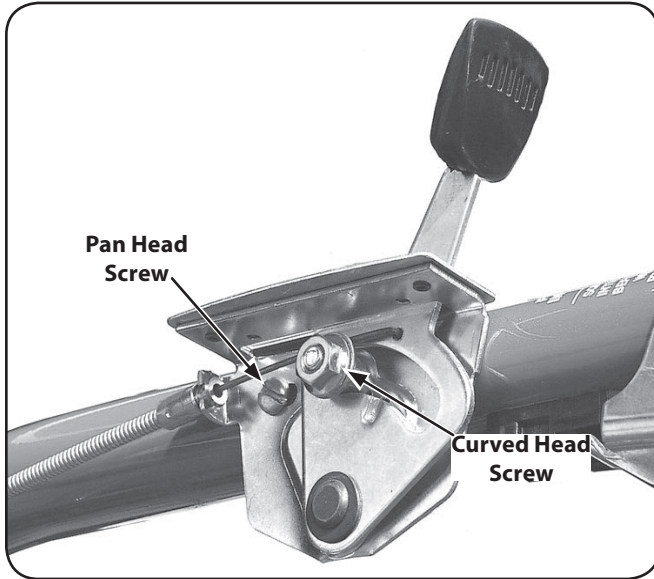

Figure 3-13
1. Run the throttle cable up the inside edge of the right handlebar and position the lever as shown in Fig. 3-13.
2. From the outside of the handlebar, insert the curved head screw, through the handlebar and the center hole in the throttle lever mounting bracket. See Fig. 3-13.